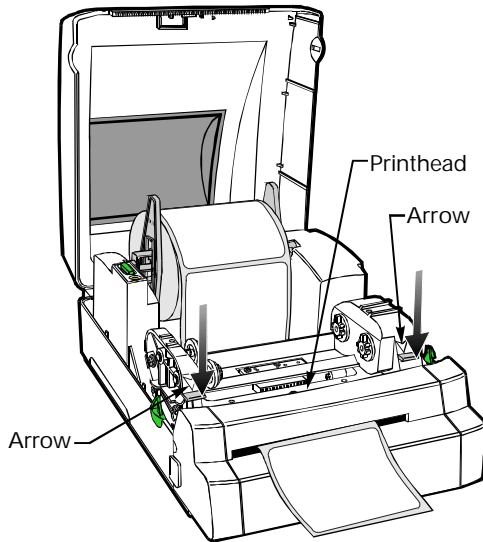

Figure 23
11. Close the printhead by pressing down at both arrows (refer to Figure 23).